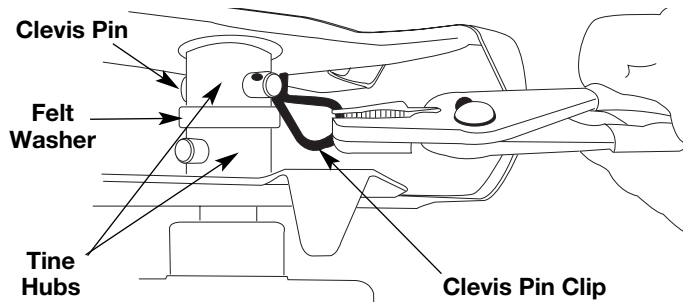

Fig. 11
- Put the On/Off Stop Control in the **STOP (O)** position and disconnect the spark plug wire.
- Remove the clevis pin clips and clevis pins (Fig. 11).